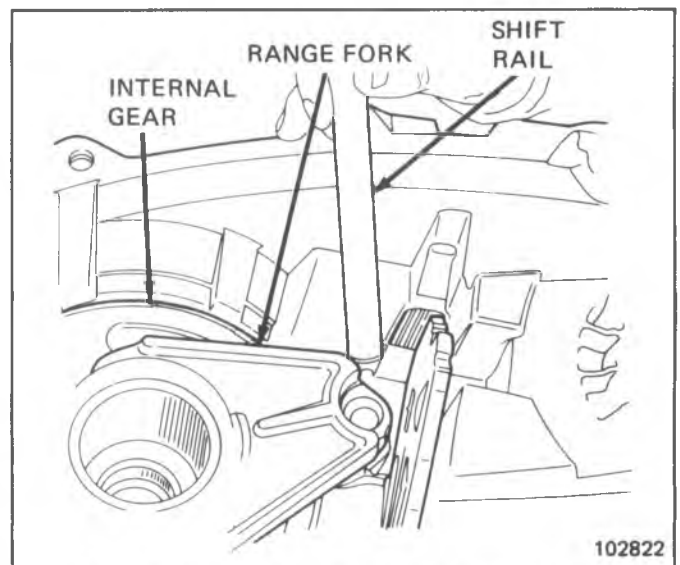

Fig. 7E-35-Annulus Gear and Shift Rail Installation
34. Apply small quantity of Loctite 515 sealant, or equivalent, to detent retainer bolt and install detent ball, spring and bolt (Fig. 7E-9). Tighten bolt to 31 N·m (23 ft. lb.).